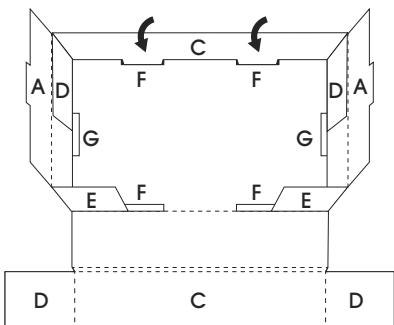

Figure 5
5. Fold side panel (C) over side flaps (E). Make sure side flaps (D) are folded outward and against side panel (A). (See Figure 5)